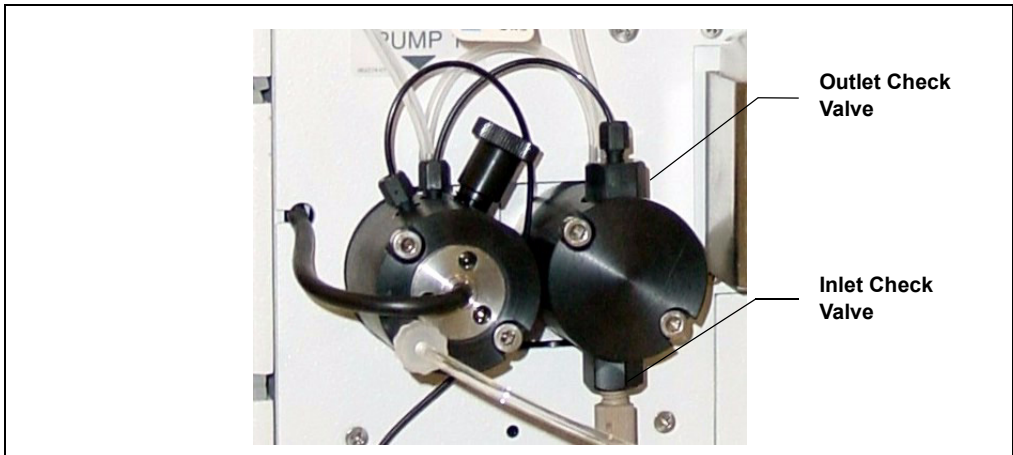

Figure 9-2. DP/SP Check Valve Connections
- The check valves are installed in the primary pump head (see Figure 9-2).